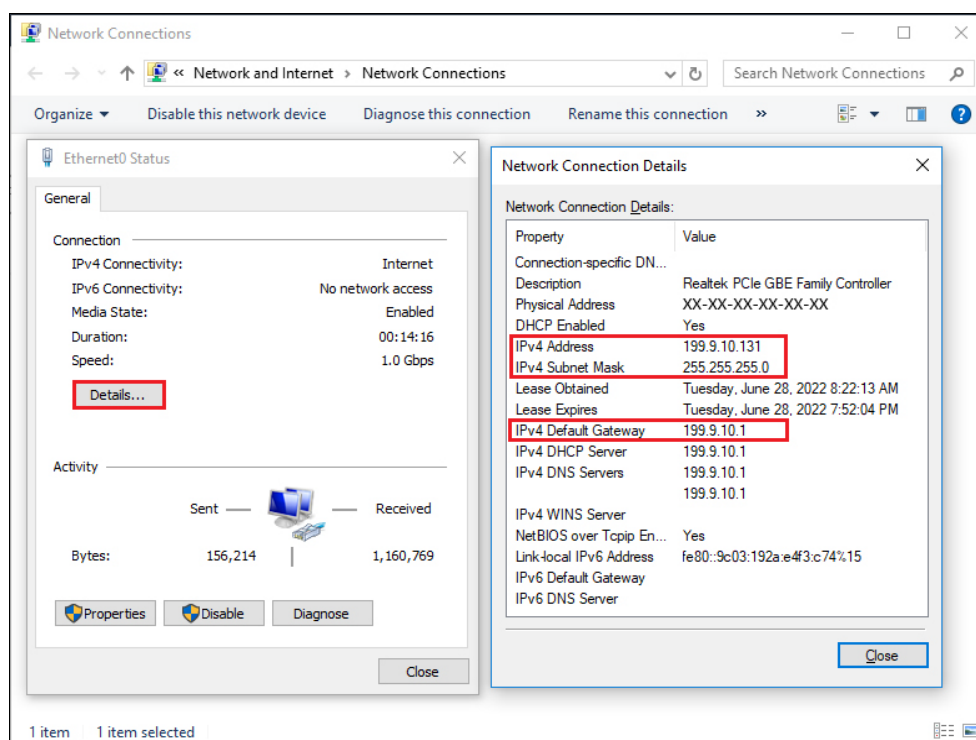

Figure 2-39 Check the LAN Information
2. Check the LAN information. See Figure 2-39.